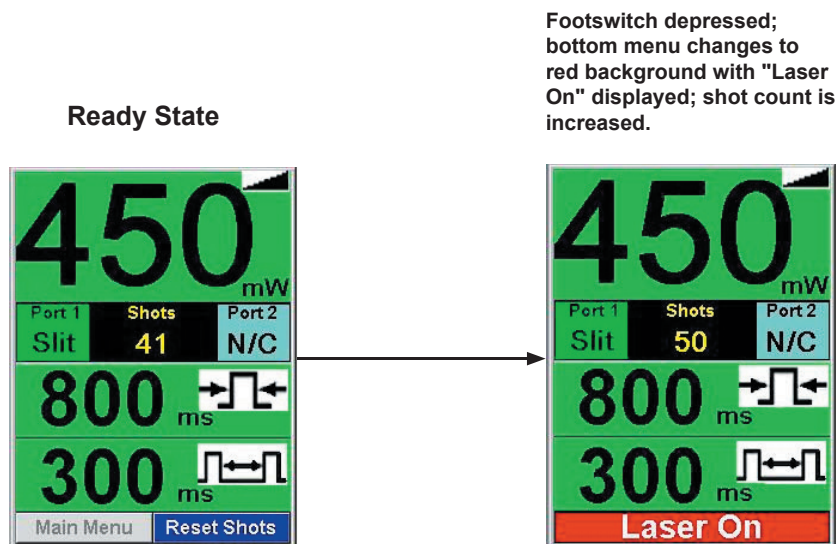

Figure 3-4 Transition from Ready State to Laser On
4.4 Press the footswitch when ready to fire. The system emits a tone each time the laser fires. Figure 3-4 shows the display transition from Ready State to Laser On. If the footswitch is not pressed within a period selected by the user from entry into ready mode, the system switches back to Standby mode.